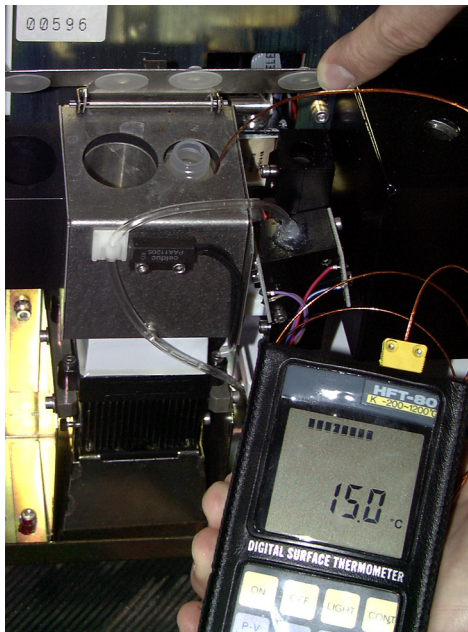

Fig.6: CRP reagent temperature
- ◆ Plunge thermometer probe between CRP reagent bottle and CRP block (See "Fig.6: CRP reagent temperature, page 4").